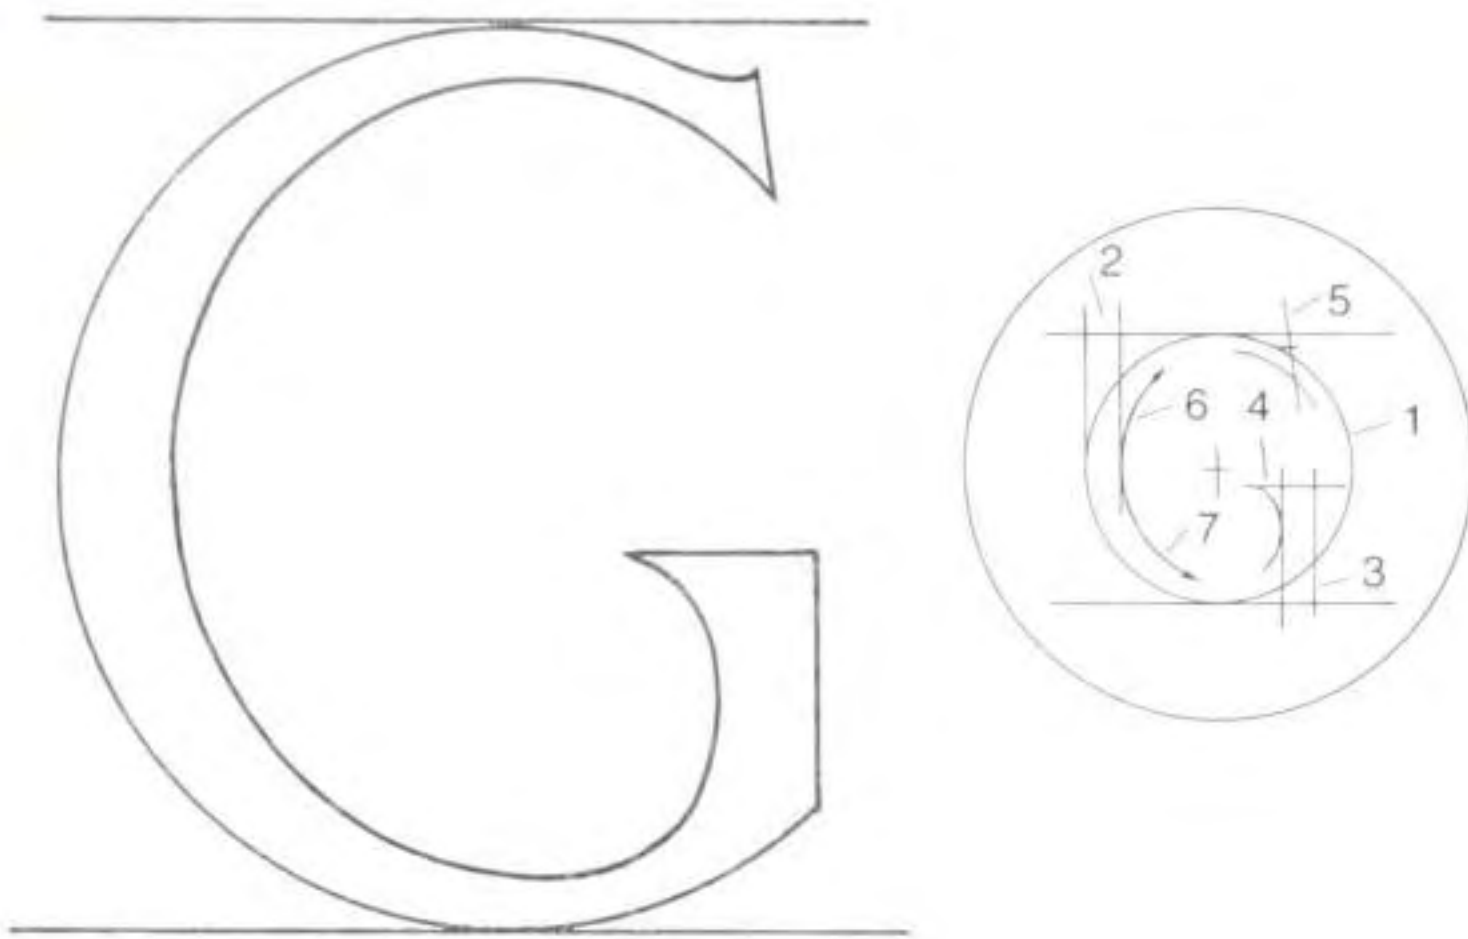

Fig 5.110 G: construction.
- 1 Refer to Fig 5.110. Cut the short upright stem first, allowing for the serif as usual.